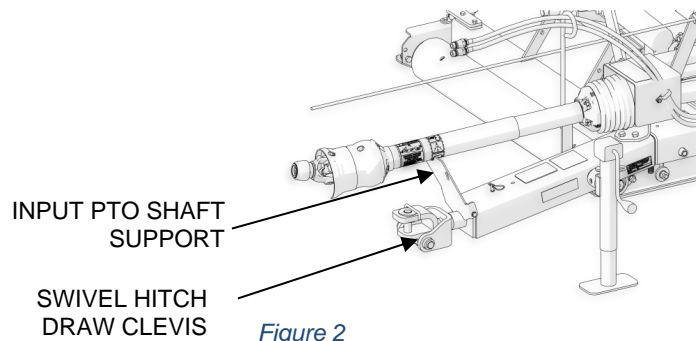

Figure 2
- 9) The TDR-X is equipped with a PTO support to aid in connecting the mower to the tractor. Once the PTO shaft is connected to the tractor, fold the PTO shaft support down onto the frame and secure it with the supplied cotter pin before operating – DO NOT LEAVE SUPPORT IN UPRIGHT POSITION. See Figure 2 page 19